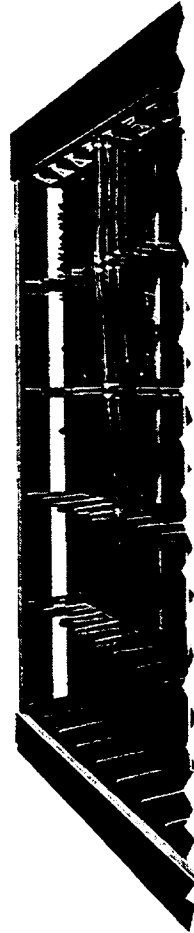

Figure 4—Position of Top-Mounted Stub Cables on Modular Type Protector Frame
(2) Position and secure the top-mounted stub cables on the protector frame as shown in Figure 4.
(3) Connect the bond wire as outlined in paragraph 3.08 (7).